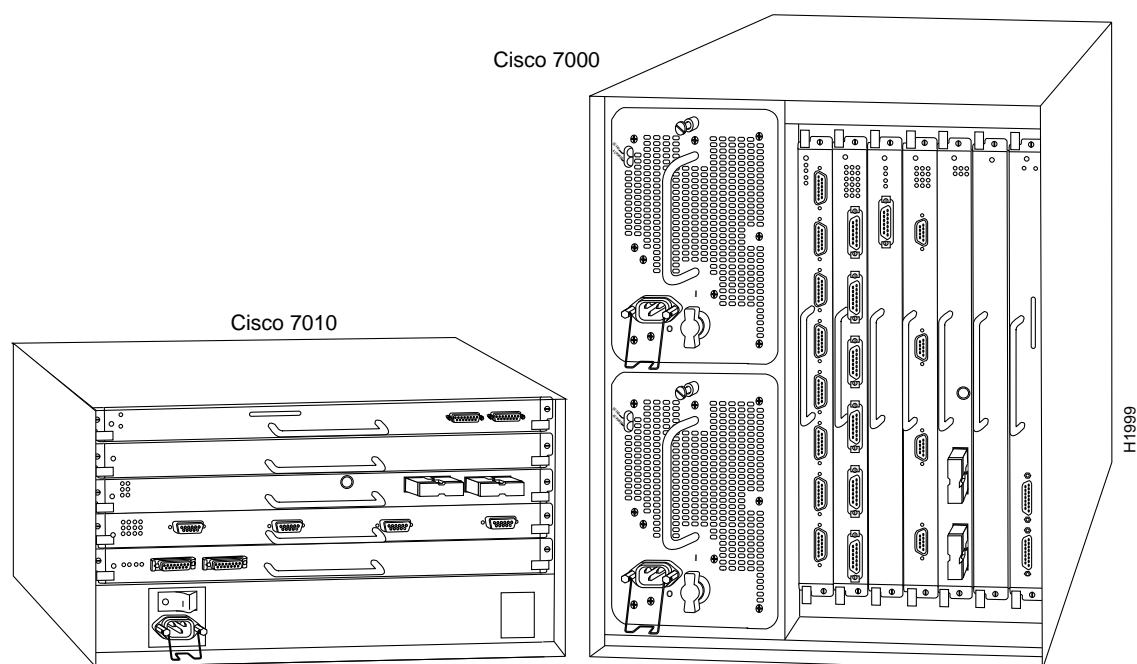

Figure 1 Cisco 7000 Series Routers
The Cisco 7000 Series comprises the seven-slot Cisco 7000 and the five-slot Cisco 7010. Both models use the same route processor (RP), switch processor (SP), CxBus interface processors (IPs), and arbiter (MAS-7KARB). The Cisco 7000 provides five interface slots and offers a second modular power supply for redundant power. The Cisco 7010 provides three interface slots that support fewer interfaces, but which offer the same performance as the Cisco 7000 at a lower cost. Figure 1 shows the IP end of both models.